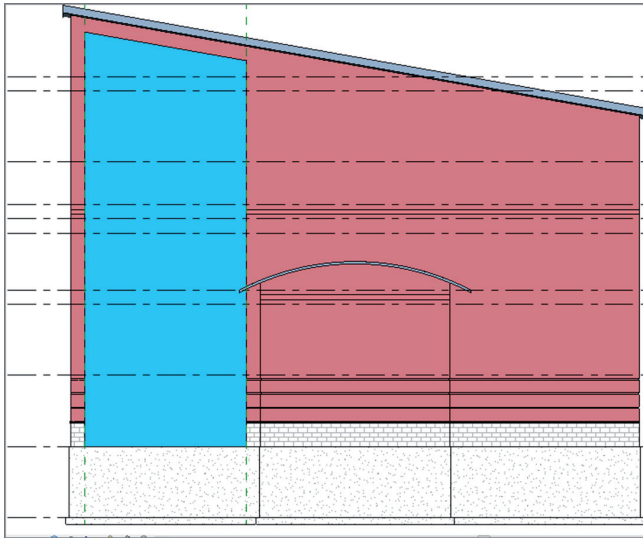

FIGURE BC1.29: The complete curtain-wall profile
6. Click Finish Edit Mode. Your curtain wall's profile should resemble Figure BC1.29.